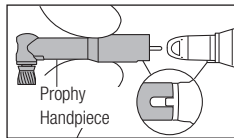

Fig. 3
- 2) Align the prophy handpiece with the groove on the handpiece and insert it all the way into the chuck (Fig. 3).